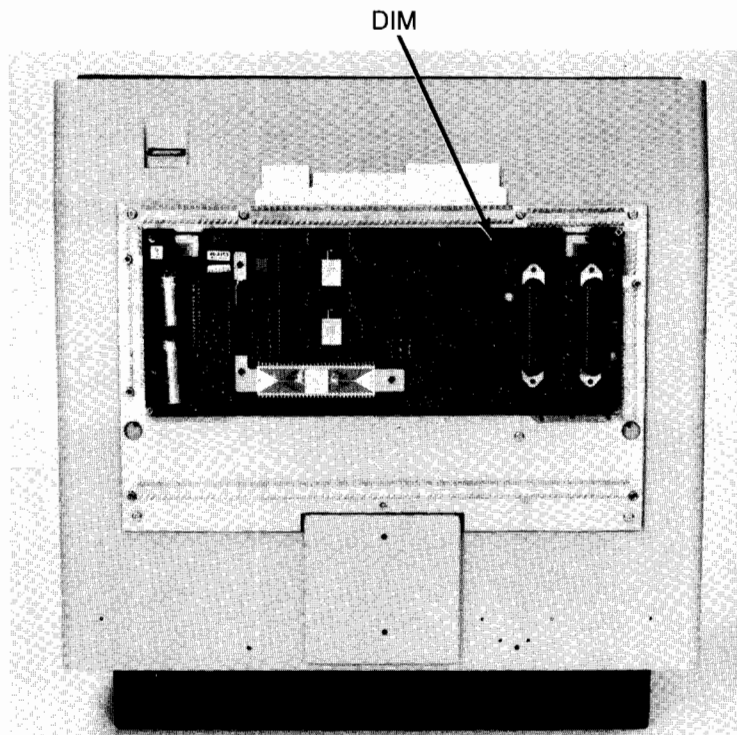

Figure 4-27. Removing DIM
4. Pull display interface module (DIM) straight off of lid (Figure 4-27).